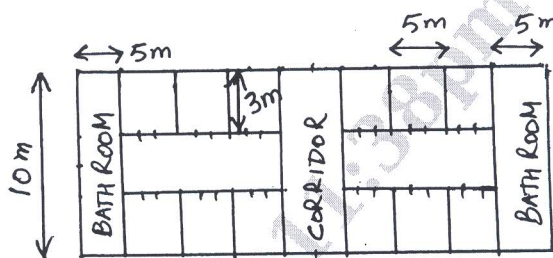

Fig. Q3(b)
- b. A floor of a 3 story hostel is shown in Fig.Q3(b). Each room is required to have two lights and a 60 W fan. The Bathrooms have two heaters each. Calculate the total current, sub-circuits and show a neat single line diagram with the wiring connections. Clearly show the total power, no. of sub-circuits, cable size, position of the lights, fans and provide a list of materials. (14 Marks)